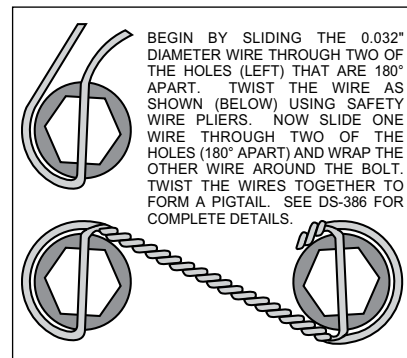

Figure 3. Safety Wire Diagram
- The caliper mount bracket assembly (1) should be installed first with clean, dry threads on the mounting bolts. Install the bracket (1) on the inboard side of the hub by sliding bolt (2) through washer (3). Place two shim washers (4) between the bracket (1) and the mounting ears. The bracket must tighten squarely against the inboard side of the caliper mounting ears on the upright. Inspect for interference from casting irregularities, machining ridges, burrs, etc. Later, after the caliper, pad, and rotor alignment has been checked, and any necessary shims have been put in place, the mounting bolts should be coated with red *Loctite*® 271 and torqued to 47 ft-lbs.
- With the larger I.D. side of the rotor (6) facing away from the hat (7), bolt rotor (6) to hat (7) through the backside of the rotor using washers (8) and bolts (9). Apply red *Loctite*® 271 to the bolt threads and torque to 140 **in-lb** using a criss-cross pattern. For an added measure of security, the bolts may be safety wired using standard 0.032 inch diameter stainless steel safety wire as shown in Figure 3. Please refer to Wilwood's data sheet DS-386 (available at [www.wilwood.com/Pdf/DataSheets/ds386.pdf](http://www.wilwood.com/Pdf/DataSheets/ds386.pdf)) for complete safety wire installation instructions.